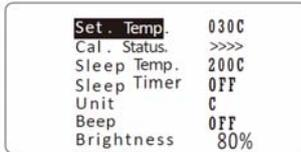

Fig.6
3.2. When Cal. status display ">>>>" (see Fig 6.) it means "Real Temp." has calibrated and increase temperature.